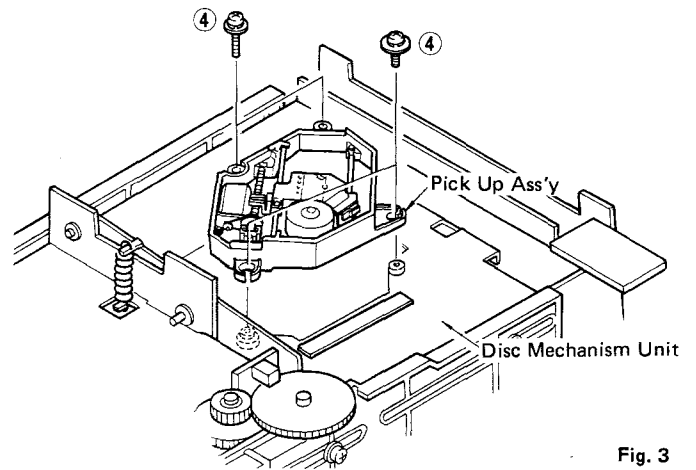

Fig. 3
Remove 4 screws (④) in Fig. 3.